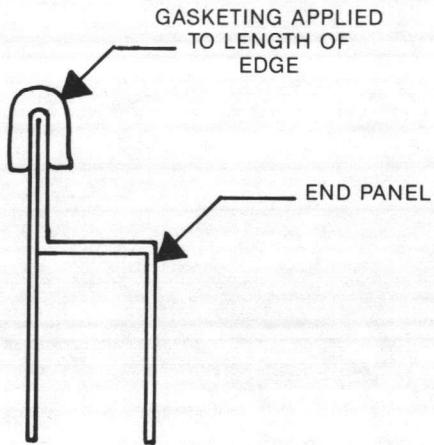

Figure 2 — End Panel Gasket
2. The lower horizontal end panel removed and the separator panel will be used to cover the downflow duct openings. Apply gasketing along the length of end panel by folding it on the edge. See figure 2.